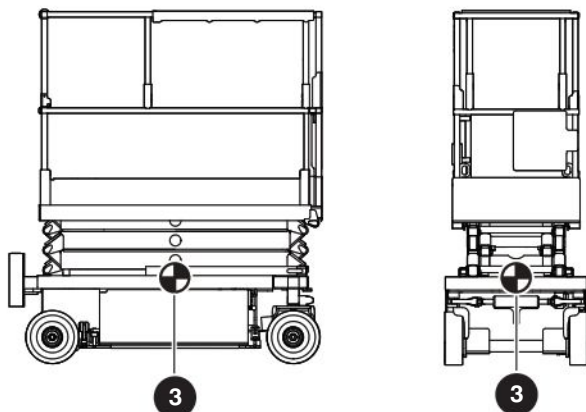

Figure 18 Center of gravity
For the weight of the MEWP, refer to Section 7.3. Horizontally, the **center of gravity** ③ is approximately in the middle of the MEWP, front to back and side to side. Refer to Figure 18. Vertically, the center of gravity is approximately a small distance above the chassis.